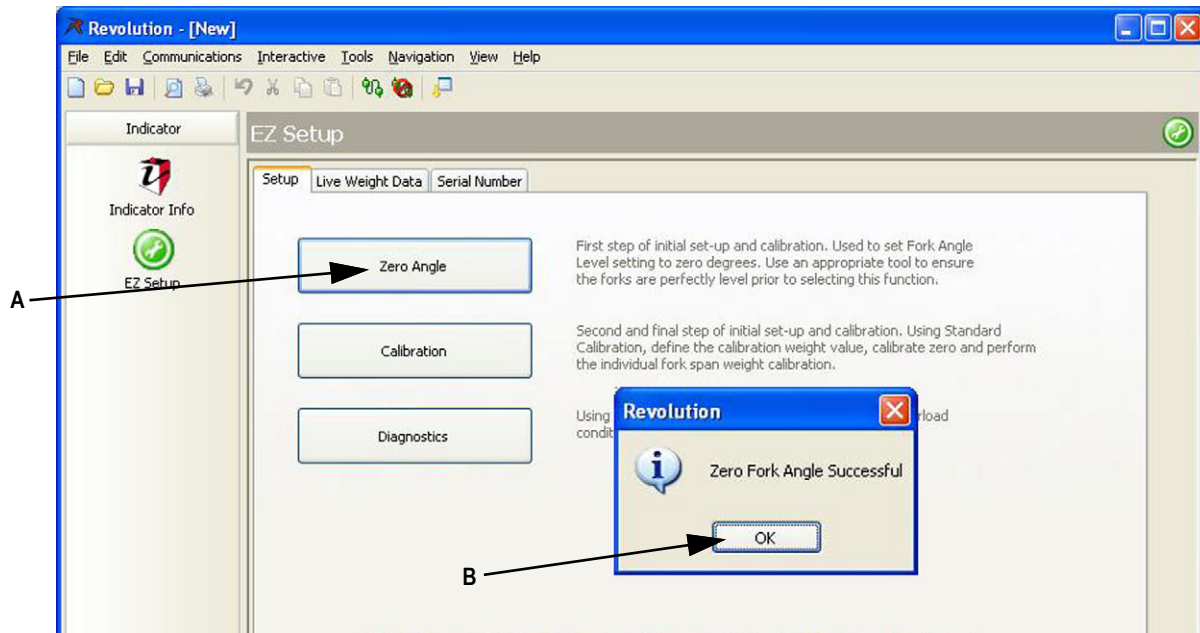

Figure 4-51. Zero Forks
2. In the setup screen, press Zero Angle (Figure 4-51 A).
3. A pop-up appears as shown in (Figure 4-51 B), press OK to close the pop-up box.